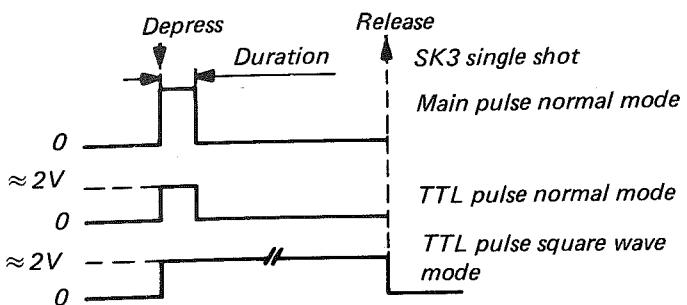

Fig. 6.4. Single shot.
- Refer to fig. 6.4.
- Depress the SINGLE SHOT switch and observe a single pulse at TTL levels and set DURATION. Refer to fig. 6.4.